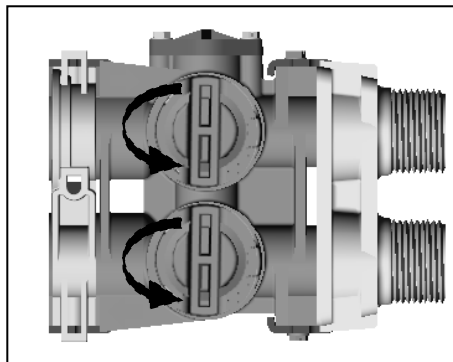

Figure 4
12. Fully open two (2) cold (soft) water faucets near the water softener.
13. Place bypass valve in "bypass" position as shown in figure 4.